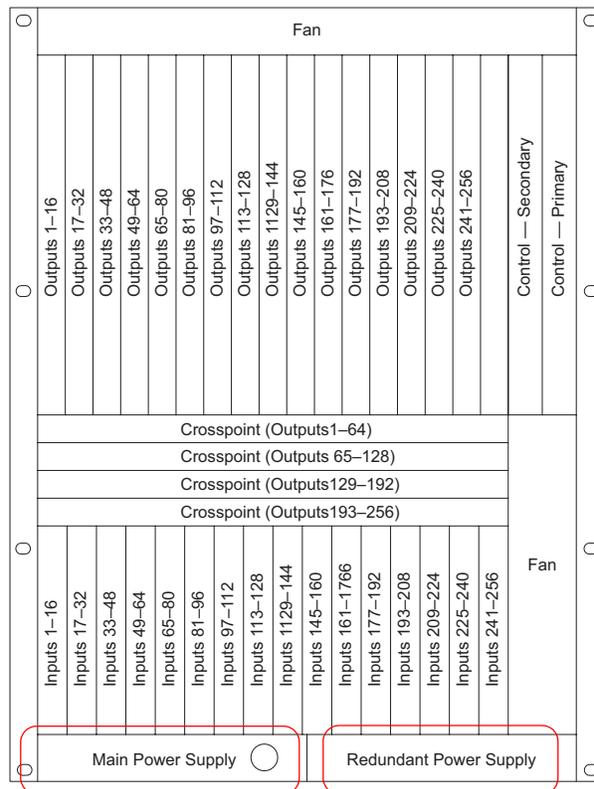

Figure 3-3. Power Supply Locations for NV7256 (Front View)
- 6 Install the primary PS6000 power supply module in the *main* power supply slot. When facing the front of the router, the slot is located in the lower, left area, as shown in Figure 3-3.
- 7 Install the redundant PS6000 power supply module in the *redundant* power supply slot. When facing the front of the router, the slot is located in the lower, right area, as shown in Figure 3-3.